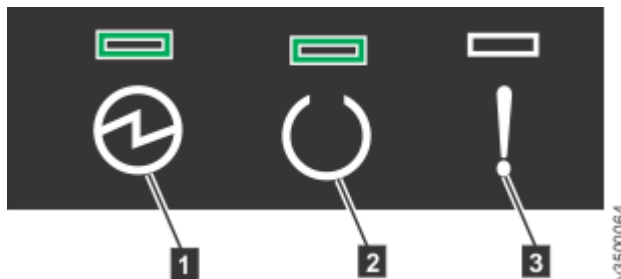

Figure 37. Expansion enclosure LEDs
2. From the rear of the rack, check the LEDs on each expansion enclosure (see Figure 37 on page 70).